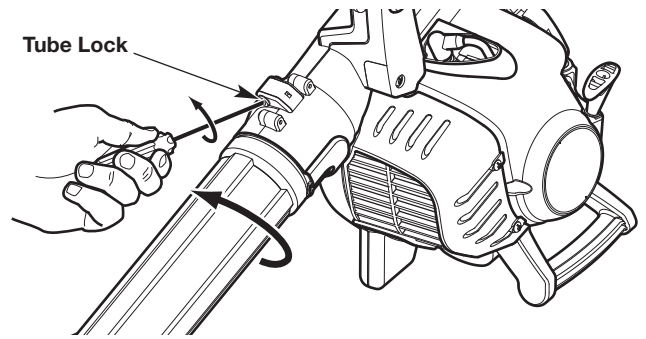

Fig. 3
2. Insert a flat-head screwdriver into the tube lock. Turn the screwdriver counterclockwise 1/4 turn and hold it in place (Fig. 3).
3. Twist the upper blower tube counterclockwise until it unlocks from the blower outlet (Fig. 3).